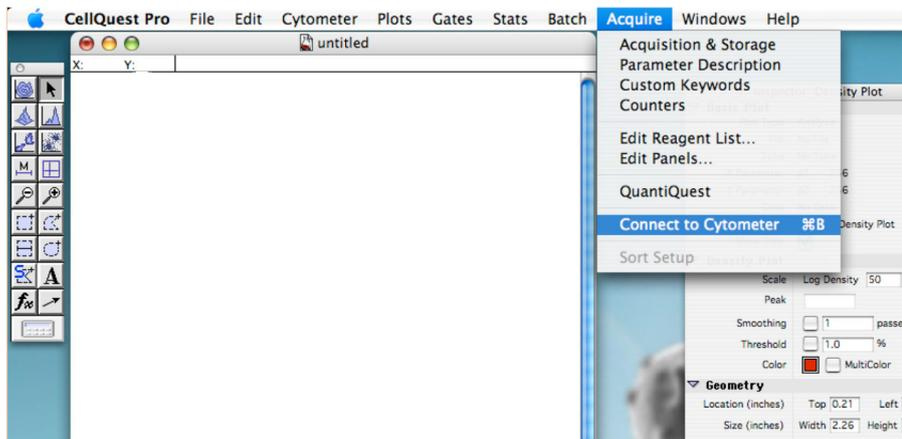

Figure 1. Showing the display to connect the cytometer to the computer
5. Go to 'Acquire' tab and click on 'Connect to cytometer' (Figure 1).